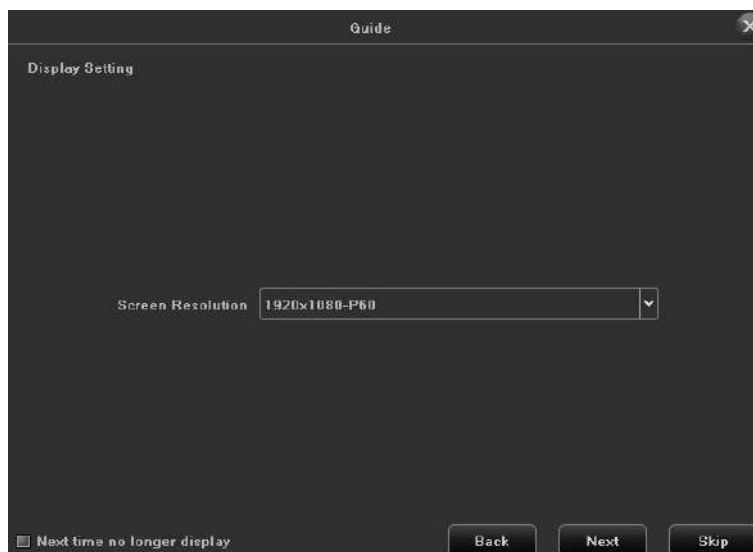

Figure 2.4 Resolution Setting
2. Click **Next** button to enter the Display Setting window, as shown in Figure 2.4.